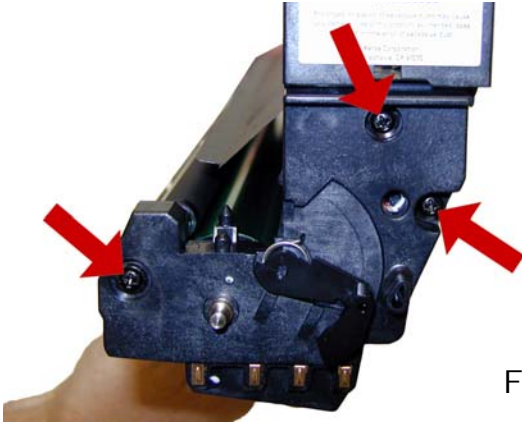

Figure 23
9) On the right (Label) side of the cartridge, remove the three screws from the end cap. See **Figure 23**